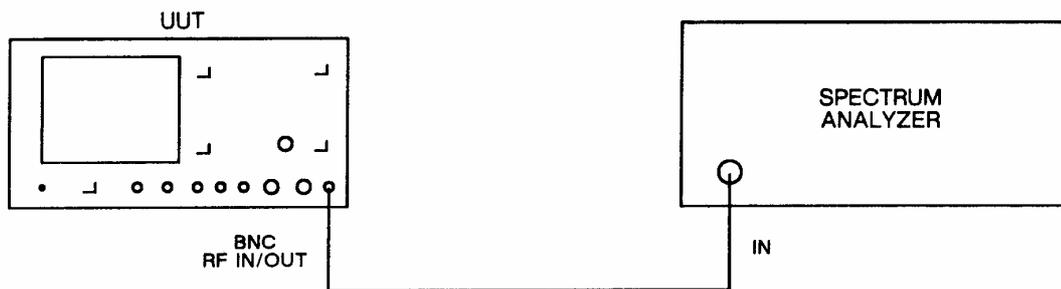

Fig. 5-1-26 Test equipment connections for RF generator harmonics, sub-harmonics & spurious signals performance checks
- (1) Connect the equipment as shown in Fig. 5-1-26.
- (2) Set the UUT to RX, RF GEN, carrier frequency 530 MHz, BNC output socket, level 0 dBm, modulation off.
- (3) Adjust the spectrum analyzer to reference the 530 MHz fundamental on the top graticule line.
- (4) Check that all sub-harmonics are less than -25 dBc.
- (5) Repeat the above for RF generator frequencies between 530 and 1000 MHz.
- (2) Set the UUT to RX, RF GEN, carrier frequency 88 MHz, BNC output socket level 0 dBm, modulation off.
- (3) Adjust the spectrum analyzer controls to reference the 88 MHz fundamental on the top graticule line.
- (4) Check that all spurious signals below 110 MHz are less than -45 dBc and all spurious signals above 110 MHz are less than -35 dBc.
- (5) Repeat for random carrier frequencies between 0.4 and 88 MHz.
- (6) Repeat for random carrier frequencies between 88 and 1000 MHz checking that all spurious signals are less than -60 dBc.